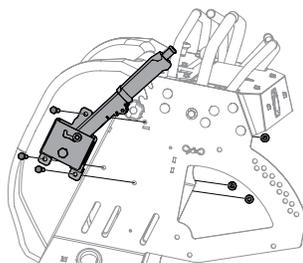

Figure 1
1. Attach handle assembly (680-01594) to right side of tractor control base with three hex screws (710-0376) and three flange lock nuts (712-04063). See Figure 1.